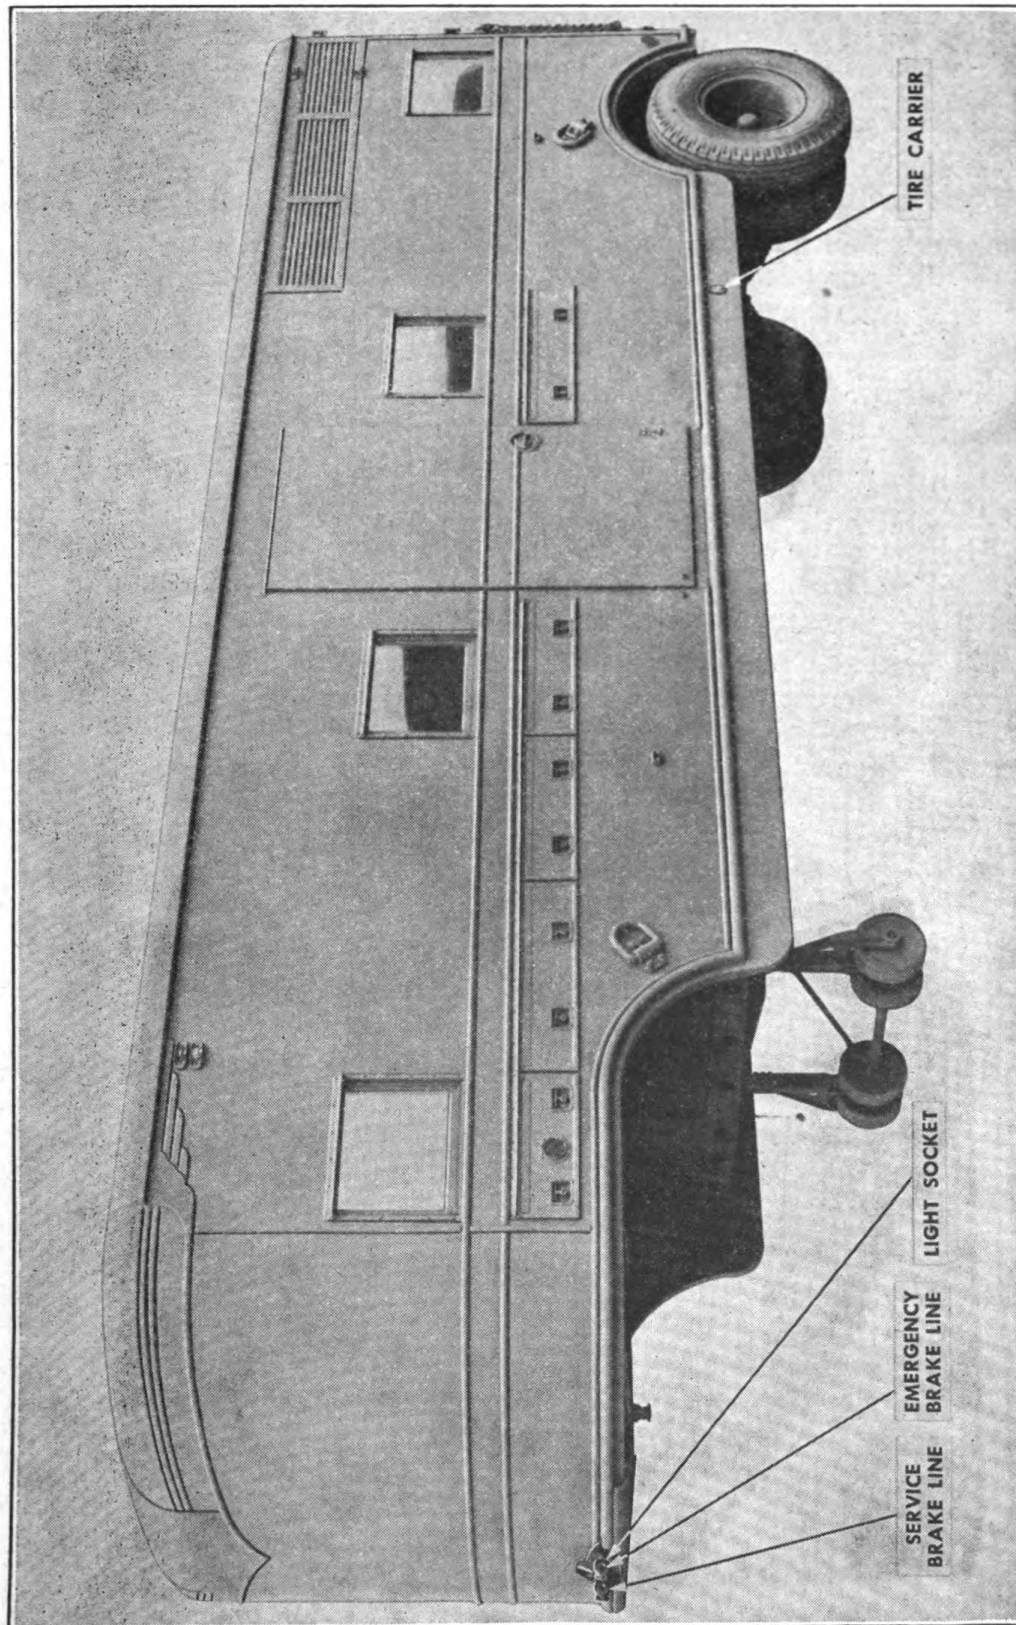

FIGURE 8. CONTROLS—LEFT VIEW OF SEMI-TRAILER.
*h. Tire carrier (Fig. 8).—*Tire carrier is located on the left side of trailer. Tire carrier operating shaft protrudes through skirting of main frame. By removing stud nuts from spare wheel and tire assembly; and holding the operating shaft with the square end of wheel wrench and handle, the ratchet lever can be released. The tire can then be lowered to the ground. To raise the tire to the carrier, fasten the saddle to stud holes in wheel, and turn shaft until rope has pulled tire up to carrier. Install lug nuts.